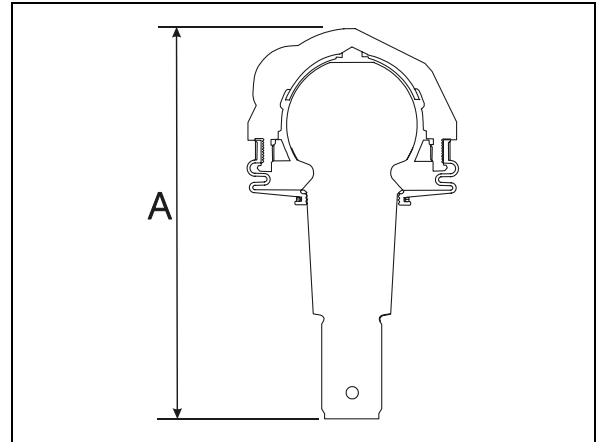

FIGURE 22: UPPER A-ARM CENTRAL BALL JOINT 16116
2. Using a caliper, measure dimension A on figure 22.